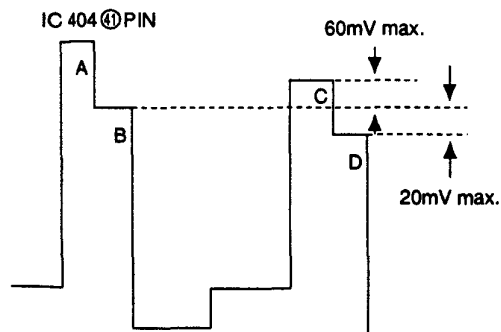

Fig. 5-19
- 2) Connect the probe of an oscilloscope to IC 404 ④PIN or TP401.
- 4) Adjust **R-Y LEVEL NTSC 358** so that the peaks of waveforms will be flush with each other as shown in Fig.5-19.